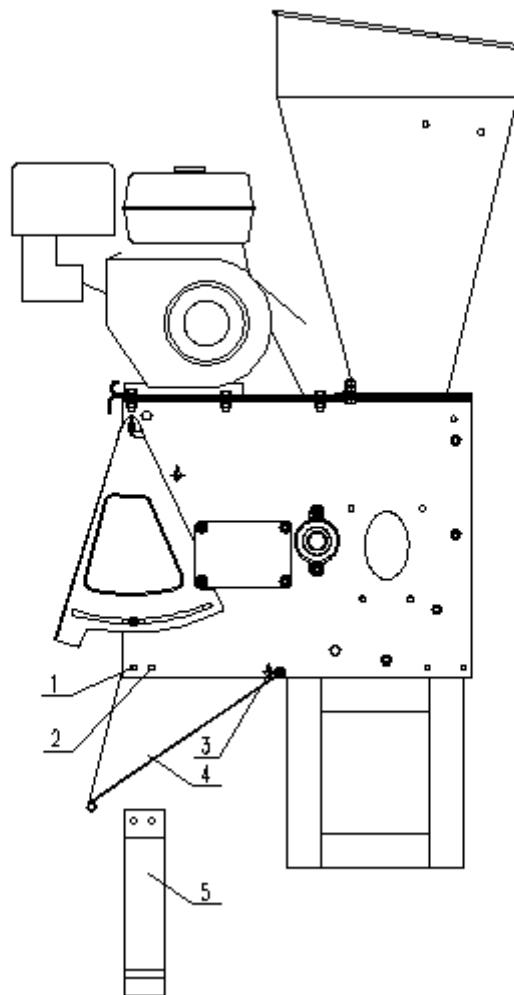

Figure 1
- Attach the front foot to the basic machine [Ref: Figure 1]